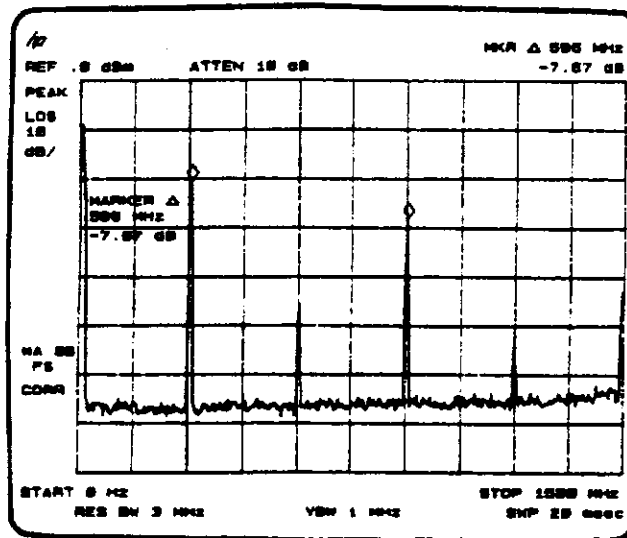

Figure 2-2
4. The amplitude and frequency difference between the markers is displayed in the active function block and in the upper-right corner of the screen. See Figure 2-2.